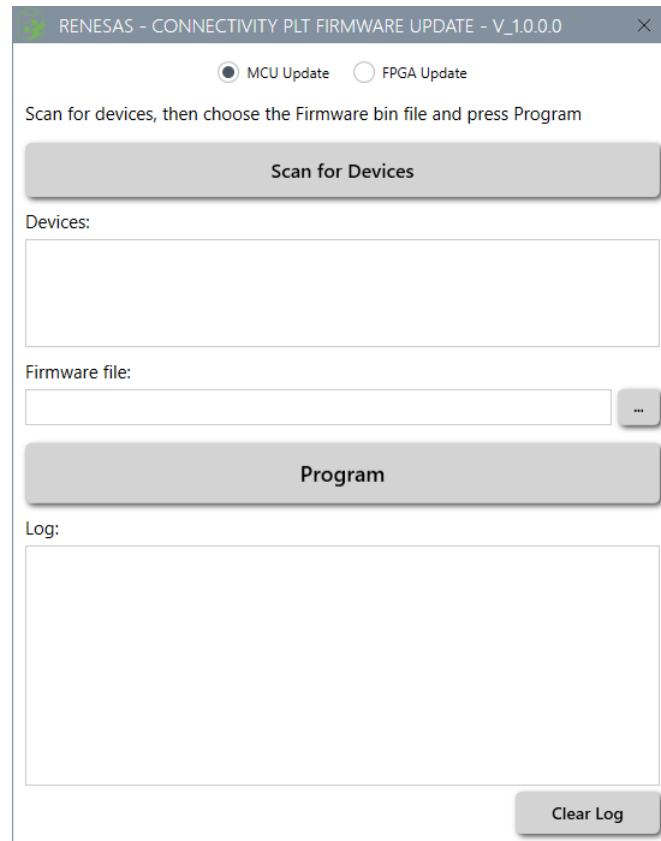

Figure 131. Firmware update application initial screen
1. In the top of **Renesas – Connectivity PLT Firmware Update** window, select **MCU Update**, and then click **Scan for Devices** (Figure 131).